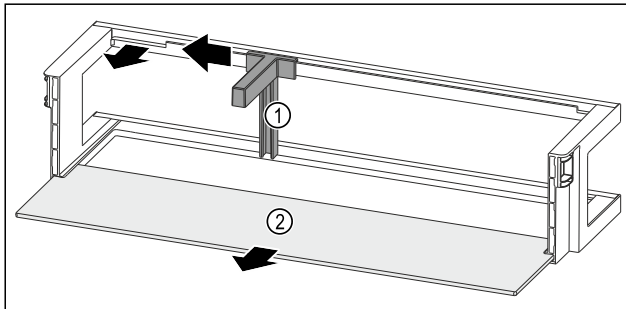

Fig. 98 Door rack with bottle holder and shelf
- ▶ Slide the bottle holder Fig. 98 (1) to the side as far as the recess.
- ▶ Remove the bottle holder Fig. 98 (1).
- ▶ Remove the shelf Fig. 98 (2).